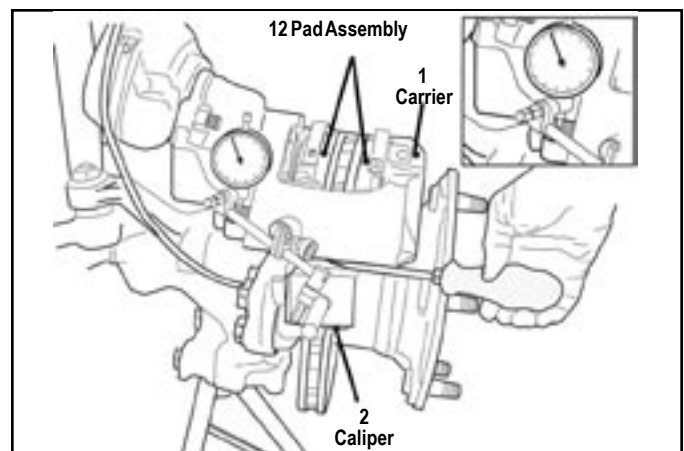

FIGURE 29 - MAGNETIC DIAL-GAUGE
See Figures 29 and 30. Remove the wheel. Remove the pad retainer (11), but leave the pads (12) in position. Attach a magnetic dial-gauge holder to the carrier (2) on the short bearing side of the caliper (1).